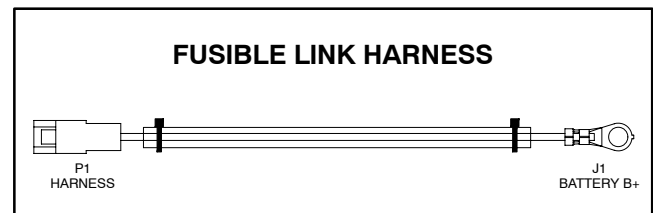

Figure 10
4. Use a multimeter to make sure that continuity exists between the disconnected fusible link connector and the link terminal at the starter motor (Fig. 10). If the fusible link is open (no continuity), replace the fusible link harness.